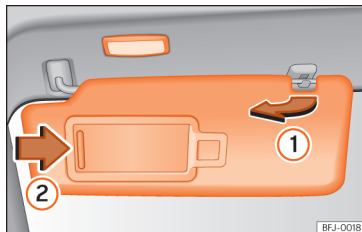

Fig. 110 Sun visor
- The sun visor can be pulled out of its mounting and turned towards the door >>> Fig. 110 ①.